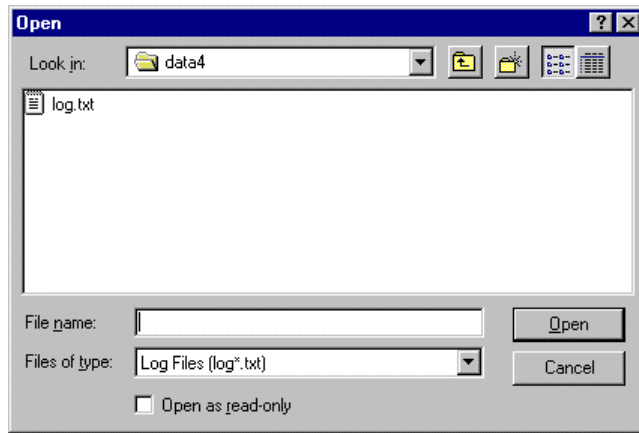

Figure 3.3. Open Dialog Box
4. In the Input section, click the Browse button to open the Open dialog box (Figure 3.3).